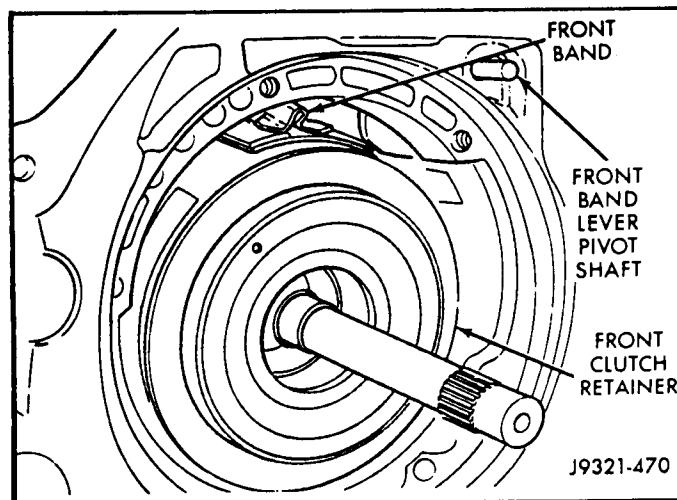

Figure 137
22. Slide the front band over front clutch housing as shown in Figure 137.
23. Install the front band lever pivot shaft part way into the case, as shown in Figure 137.